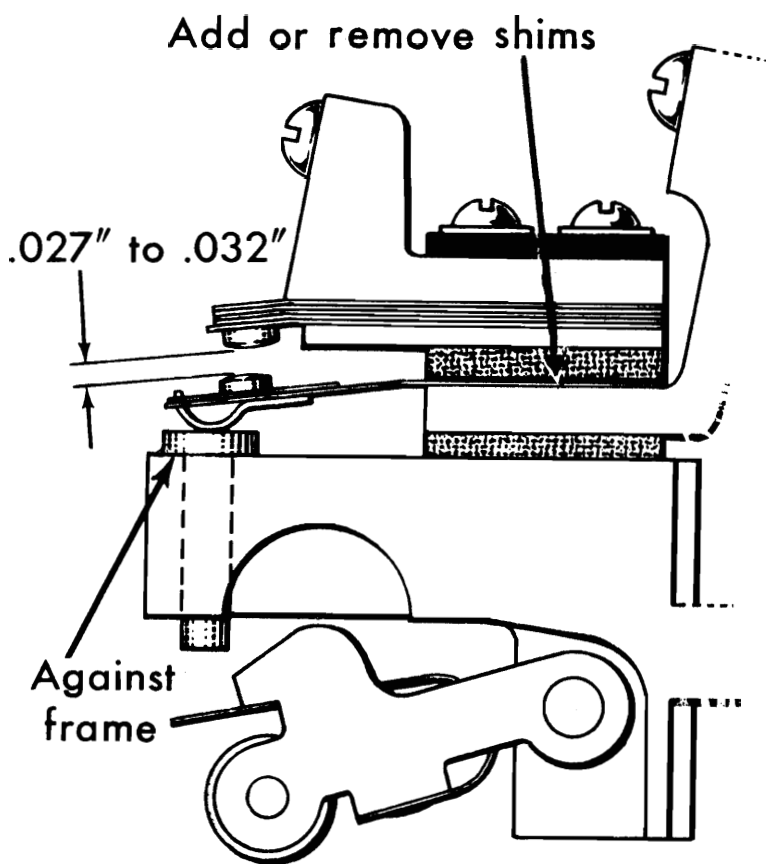

Figure 16. Plunger Circuit Breakers,
2. The contact air gap should be .027" to .032" when the plunger is resting against the frame (Figure 16). Add or remove shims to obtain this adjustment.